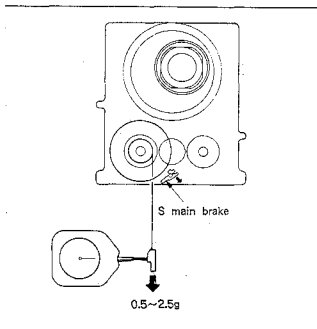

Fig. 7-60.
1. S soft brake torque (See Fig. 7-60.)